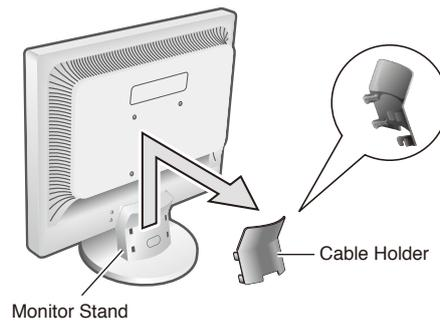

Figure 1
2. Remove the cable cover (figure 1).